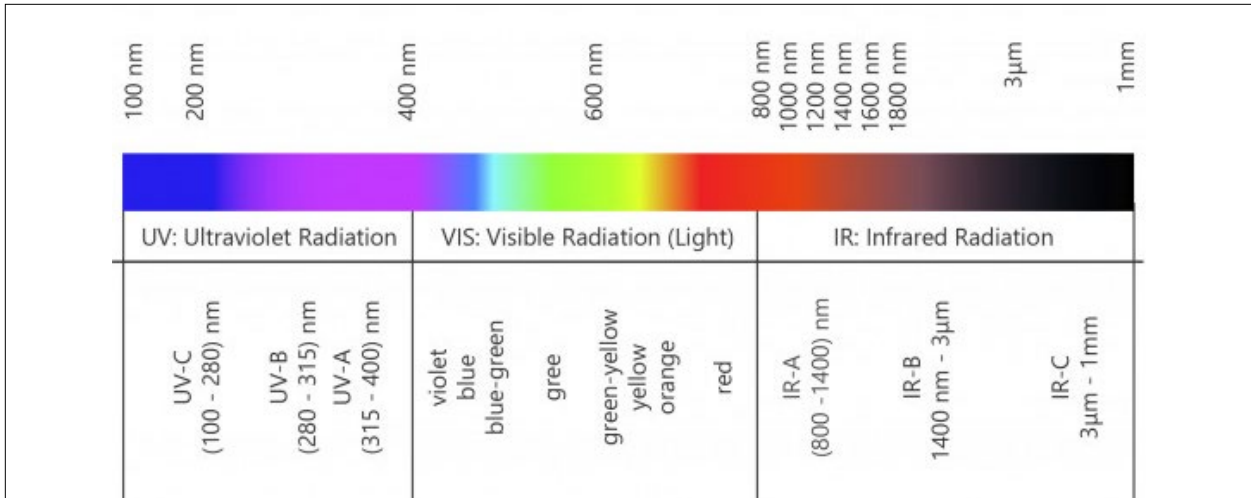

Figure 1. Electromagnetic Spectra
As a quick review, optical radiation is that part of the electromagnetic spectrum which spans from 100 nm to 1 mm in wavelength (Figure 1). Within this total radiometric range, optical radiation visible to the human eye (light), spans from 360 nm to 830 nm per CIE International Standard S 026/E:2018 [1], the photometric range. There are many radiometric SI units derived from the watt (W) and many photometric SI units derived from the basic lumen (lm) (refer to Table 1).